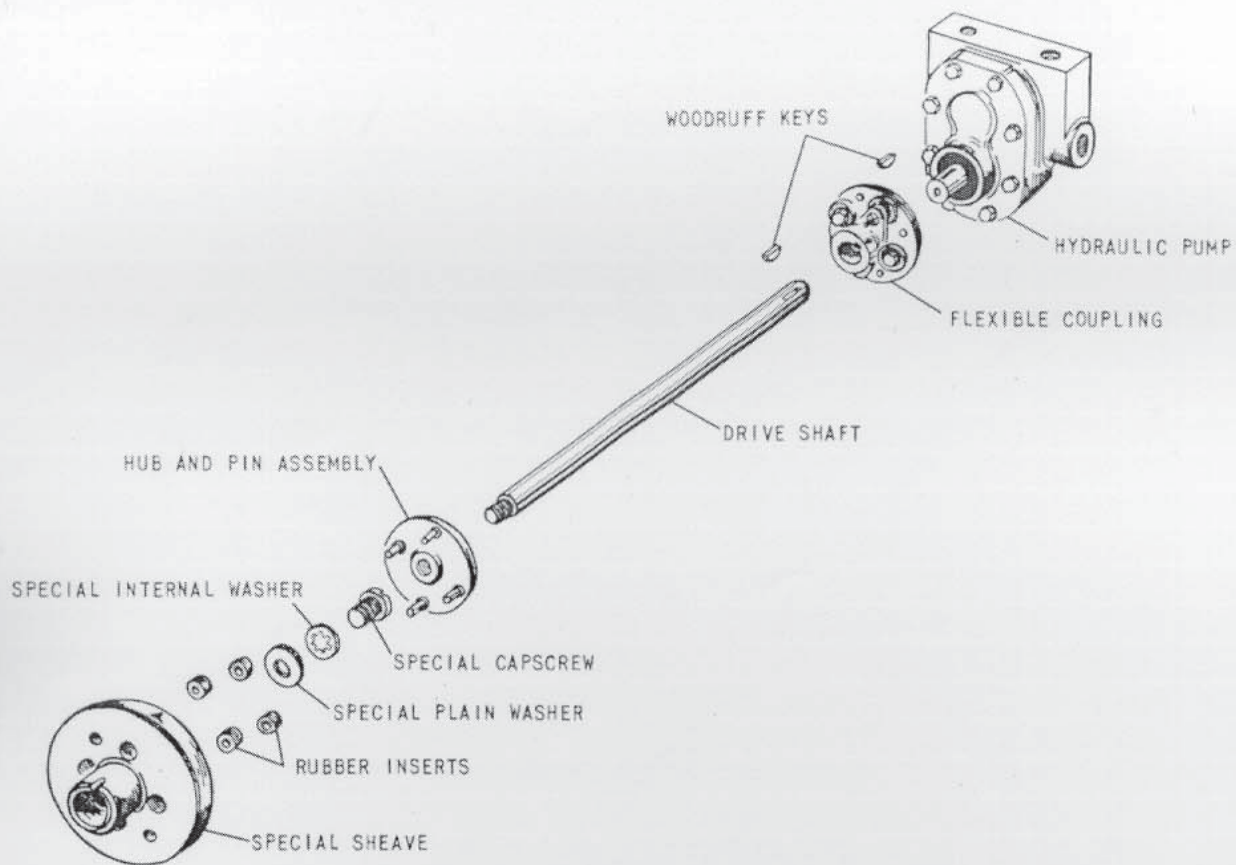

Figure 8—Drive Assembly WM3 and WM2 Only
- Loosen bolts holding pump on loader. This will permit alignment when pump is connected to driveshaft (Figure 8).